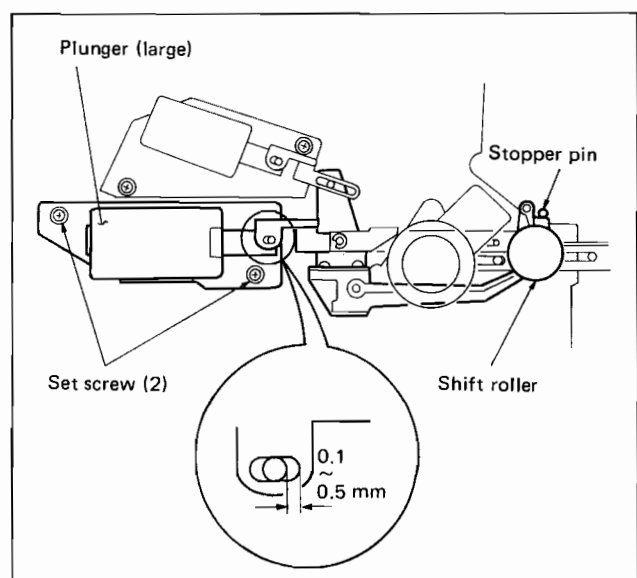

Fig. 5-9.
- Supply 4V to a plunger (large) and fix the plunger (large) by using the two set screws so that there is a clearance of 0.1 to 0.5mm between the pins indicated by the arrow (in Fig. 5-9).
- By withdrawing the plunger (large) by hand, adjust the damper (right) so that the time required for the shift roller to return from the FWD position to the MECH STOP position is 0.4 seconds. (Fig. 5-9)